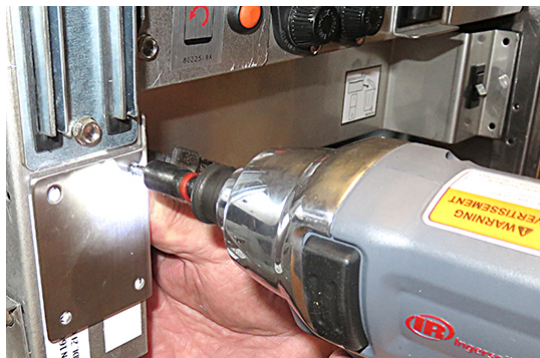

Figure 10
12. Attach the bracket with the included self-drilling screws, (see Figure 10). Now remove the bracket. This will enable easier attachment later.